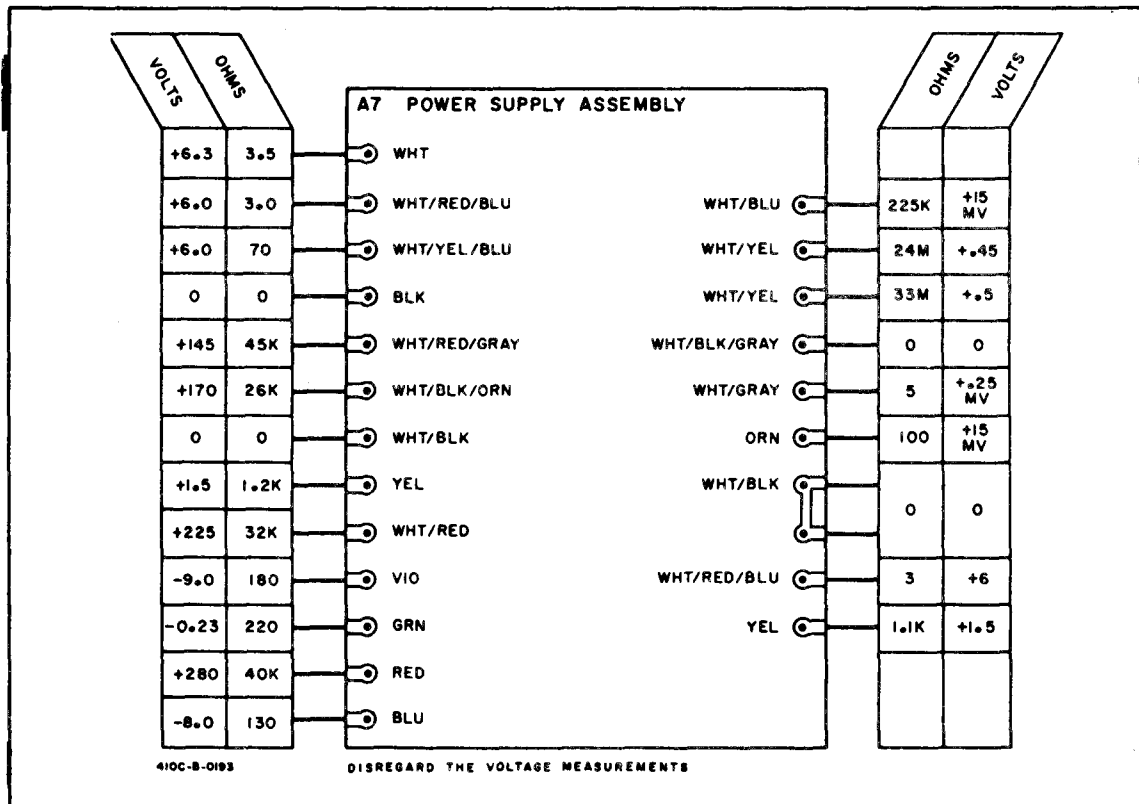
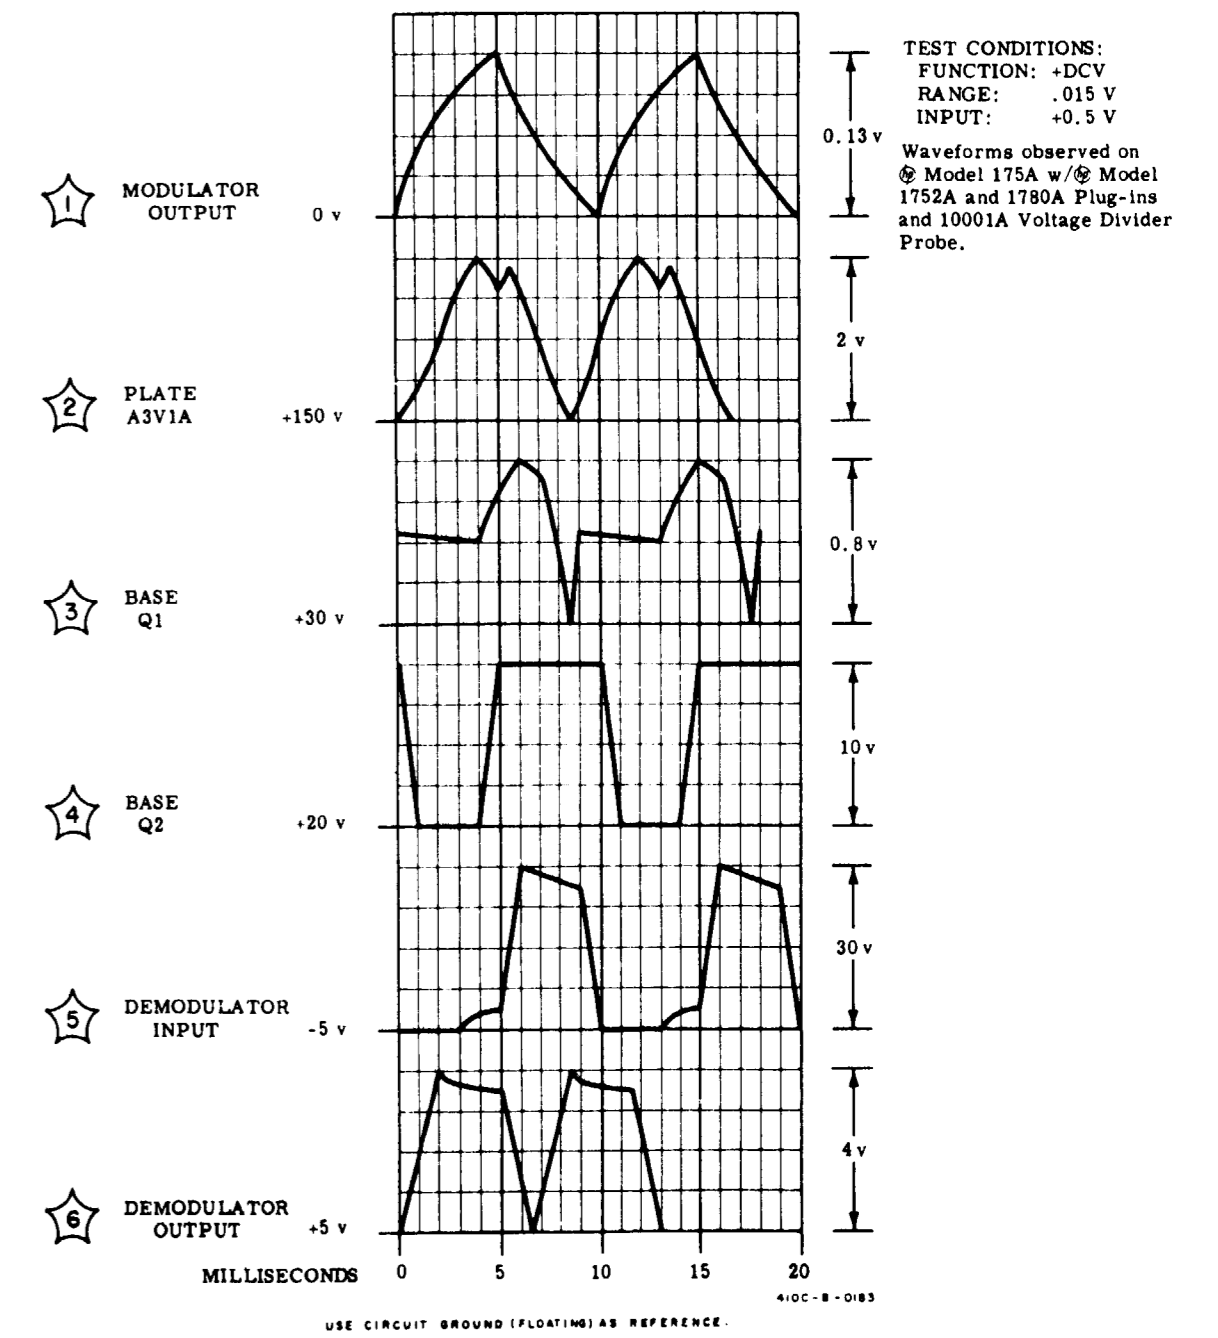
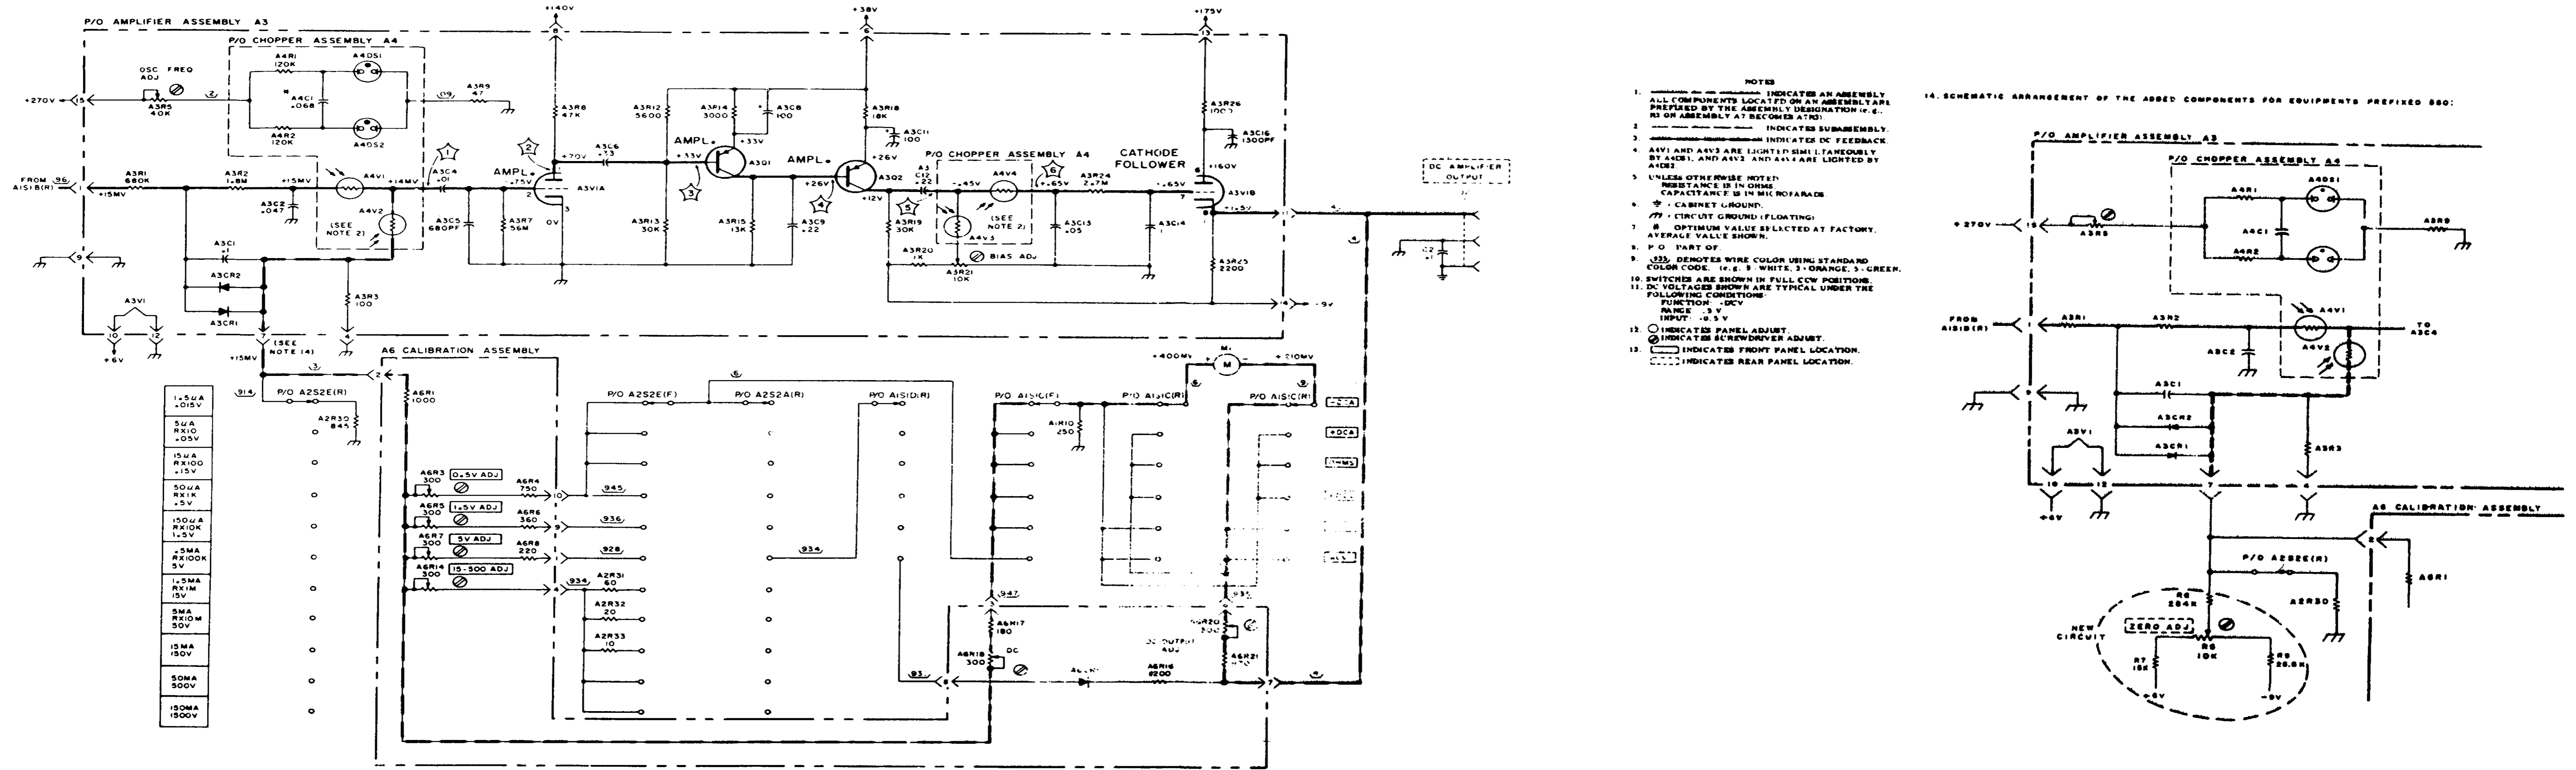

Figure 5-7. Power Supply Measurements
Figure 5-9. Typical Amplifier Waveforms
Figure 5-10. Amplifier Schematic
5-44. Refer to Figure 5-9 for typical waveforms encountered in the Model 410C. Waveforms represent signals which occur when instrument is operating during overdriven conditions (.5 vdc input to .015 v RANGE).
- ① Check power supply voltage values using the procedure outlined in Paragraph 5-29. If voltages are correct, proceed to ③. If voltages are incorrect, proceed to ②.
- ② If malfunction appears in the power supply, and adjustment of the chopper frequency to 100 cps does not reduce the error, refer to Figure 5-7 for further investigation. Check voltage and resistance values listed. When deviation is noted, trace circuit investigating for faulty component.
- ③ Measure the dc voltage at the DC AMPLIFIER OUTPUT on Model 410C rear panel. Under overdriven conditions specified, output should be approximately +4.0 v. If this measurement is correct, proceed to ④; if not, proceed to ⑤.
- ④ Trace circuit from Pin 11, A3 to Pin 2, A6. Use ohmmeter to check values of A6R21, A6R20, A6R17 and A6R1. Refer to Figure 5-10 for pertinent component and dc voltage values.
- ⑤ Measure the dc voltage at Pin 1, A3. This voltage is typically 13-15 mv. If this voltage is correct, proceed to ⑥; if not, proceed to ⑦.
- ⑥ Investigate switch circuit. Refer to asterisks in Table 5-9 for hints on how to troubleshoot switch circuit.
- ⑦ Observe input voltage to demodulator using an oscilloscope. Refer to Figure 5-9 for normal waveform under overdriven conditions specified. If waveform is normal, proceed to ⑧; if not, proceed to ⑨.
- ⑧ Investigate the demodulator and cathode follower A1V3B. Refer to Figure 5-10 for typical voltage and parameter values. Refer to Table 5-9 for method to check for open demodulator.
- ⑨ Investigate the modulator and amplifier to include A1V1A, Q1 and Q2. Refer to Figure 5-10 for typical voltage and parameter values. Refer to Table 5-9 for method to check for open modulator.